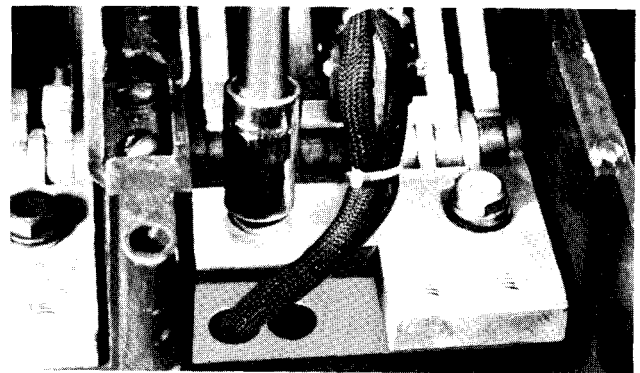

Fig. 8
- b. Discard the plain washer and install the switch assembly, as shown in Fig. 8, using bolt and lock-washer.
- g. Install wire ties on wire bundle on the inside and outside of base to provide strain relief. See Fig. 8.
4. Install wire ties on wire bundle on the inside and outside of base to provide strain relief. See Fig. 8.
5. Install wire ties on wire bundle on the inside and outside of base to provide strain relief. See Fig. 8.
5. Install wire ties on wire bundle(s) on the inside and outside of base to provide strain relief. See Fig. 8.